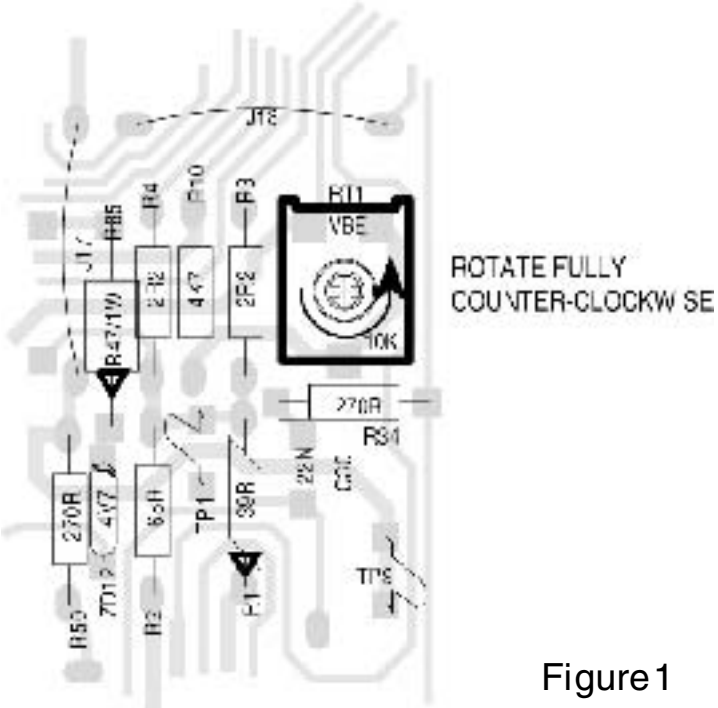

Figure 1
- STEP 4.** Rotate the trim pot RT1 fully counter - clockwise as in figure 1. Inspect and replace any resistors that look burnt. Measure all of the resistor values coloured YELLOW on the assembly drawing. The value that you measure may not be exactly what is shown on the assembly drawing but if the resistor doesn't look damaged it should measure within + or – 5% of the printed value.